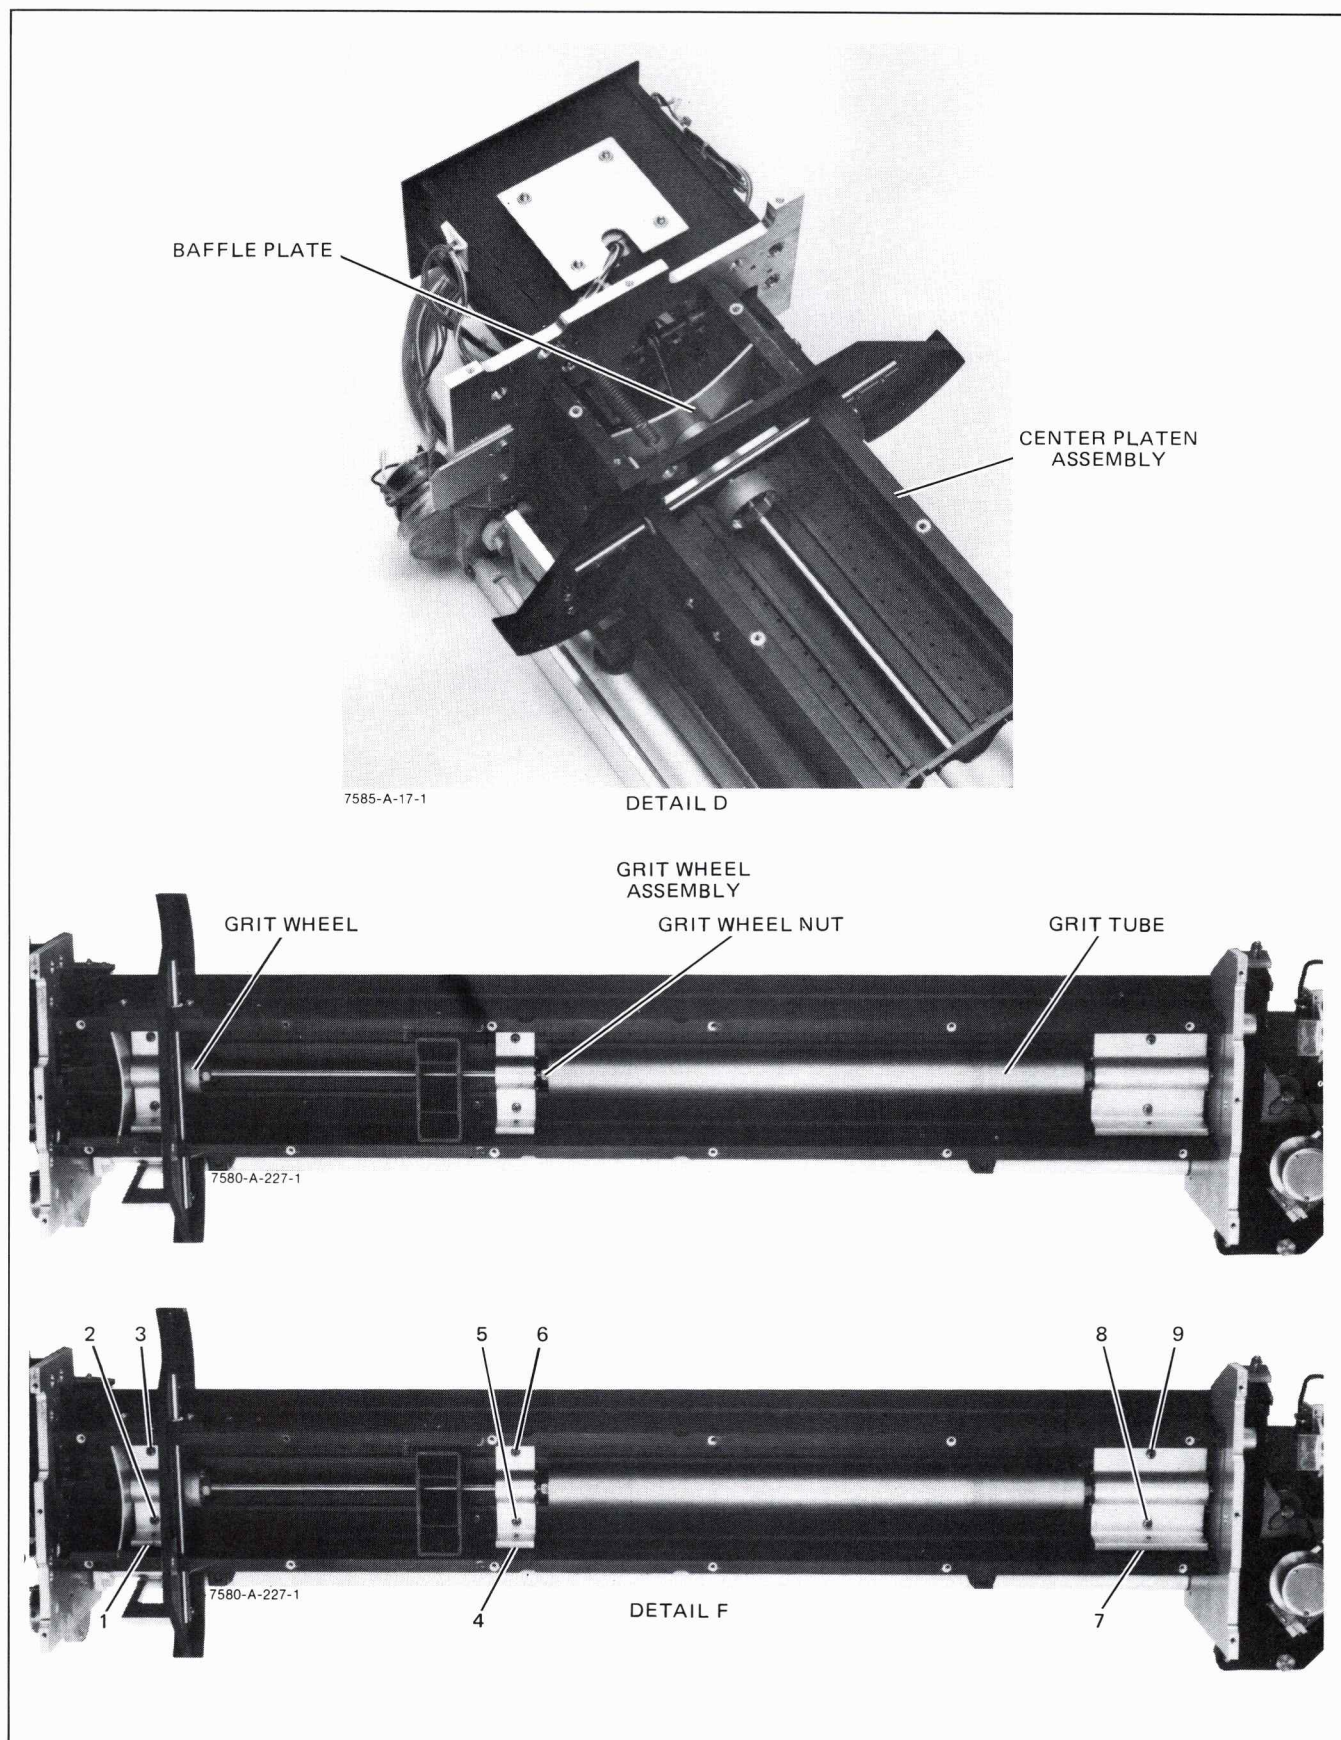

Figure 6-14. Grit Wheel Replacement (Sheet 2 of 2)
- u. Remove the baffle plate from the center platen assembly. See Figure 6-14, Detail D.